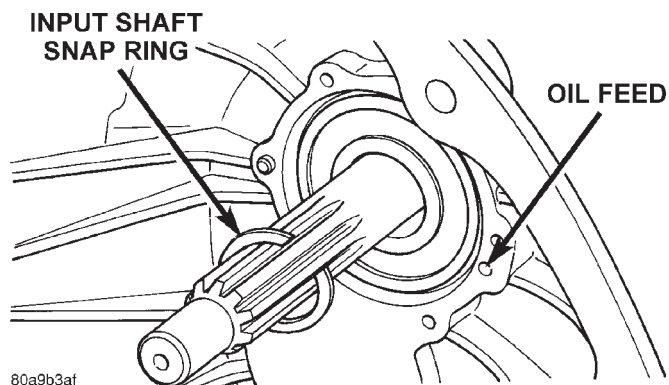

Fig. 14 Input Shaft Snap Ring Removal
(10) Remove snap ring that secures input shaft in front bearing (Fig. 14).